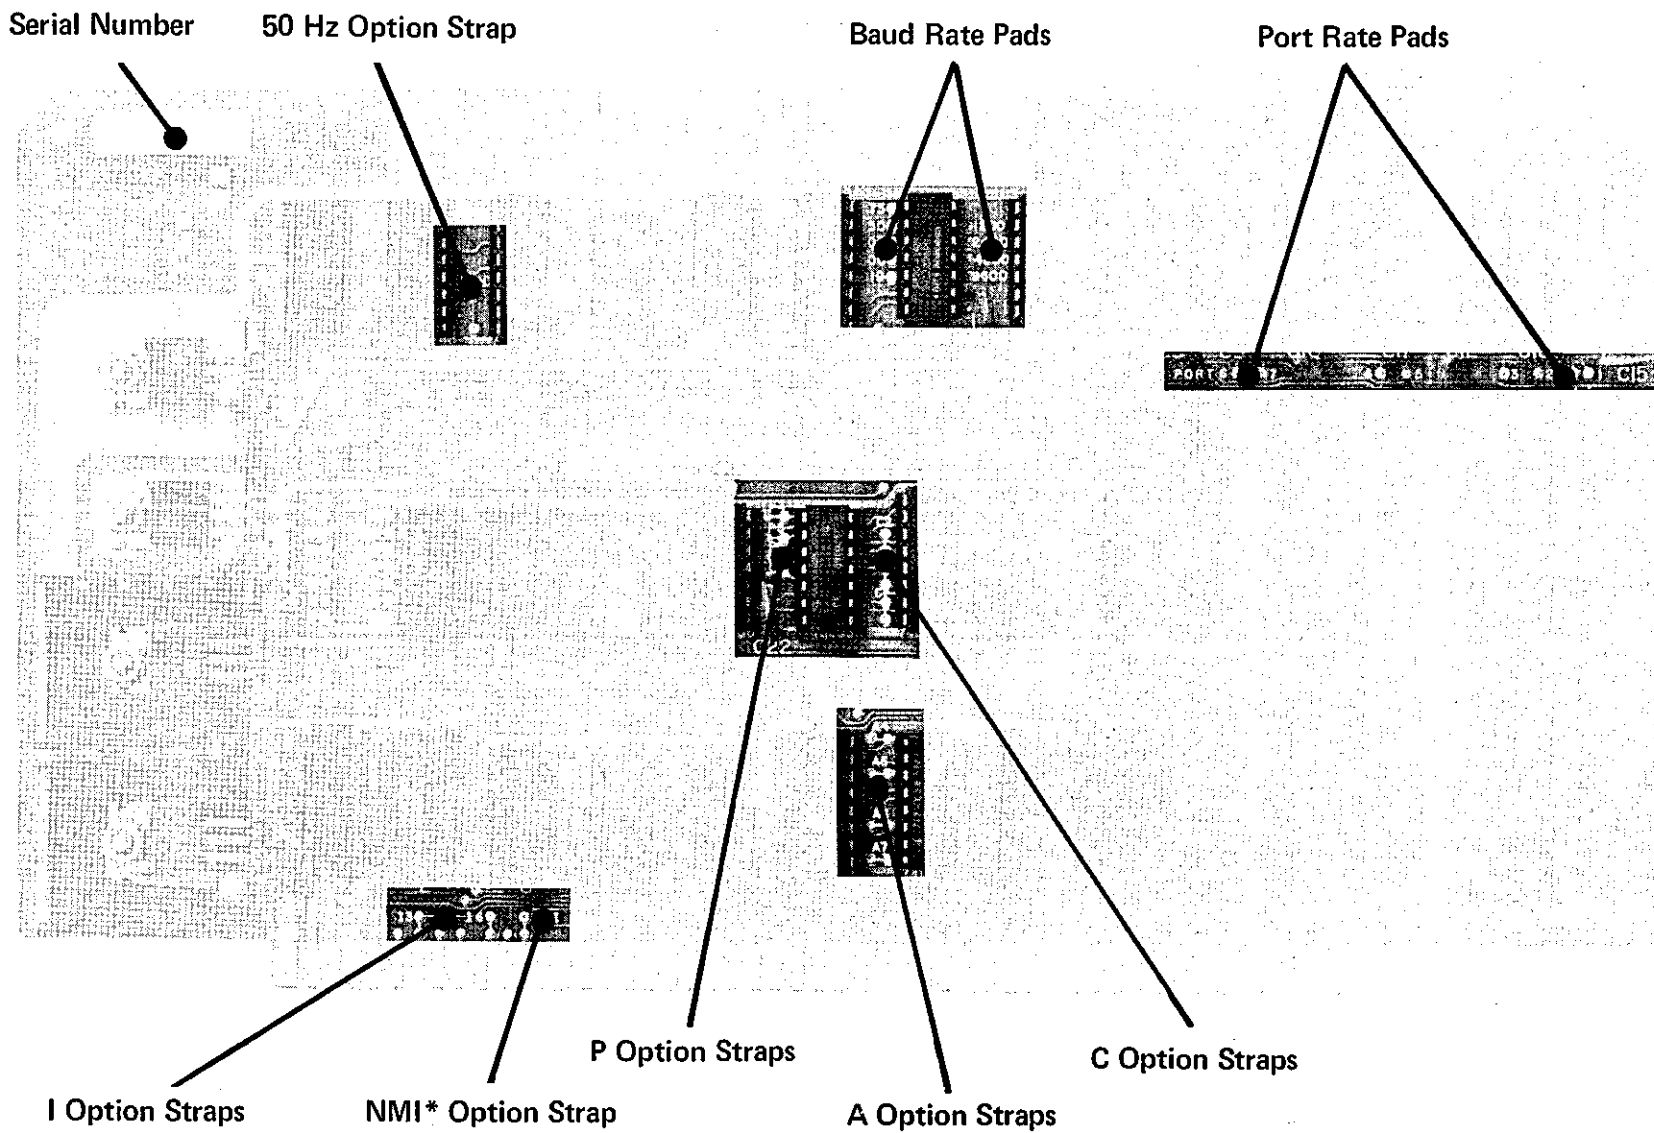

Figure 2-1 — Octaport — 801957
Figure 2-1 illustrates the Octaport.
The Octaport integrated circuits and some major components derive their reference designations from the row-column matrix silkscreened onto the pc board. Refer to Figure 2-1. Rows are designated A through C and columns are designated 1 through 13. The integrated circuit located at the lower right corner is C13.
**2.05** The Octaport PC Board has several positions for option straps. Refer to Figure 2-1.